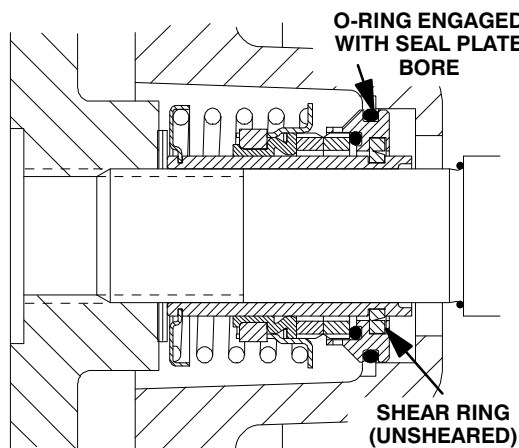

Figure 9. Seal Partially Installed
Clean and inspect the impeller as described in **Impeller Installation and Adjustment**. Install the full set of impeller shims (2) provided with the seal, and screw the impeller onto the shaft until it is seated against the seal (see Figure 9).